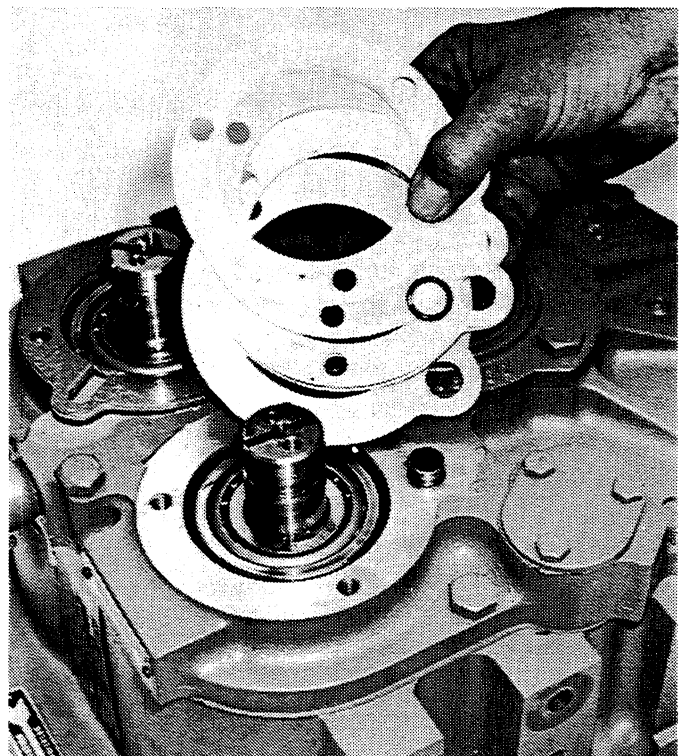

Figure 9-3. Pump Mount Shims and O-Ring Seal.
5. Install the shim pack (See Figure 9-3) under the pump mount (Figure 12-1, 39) and secure with capscrews (40). Torque the capscrews 27 ± 2 lbs. ft.